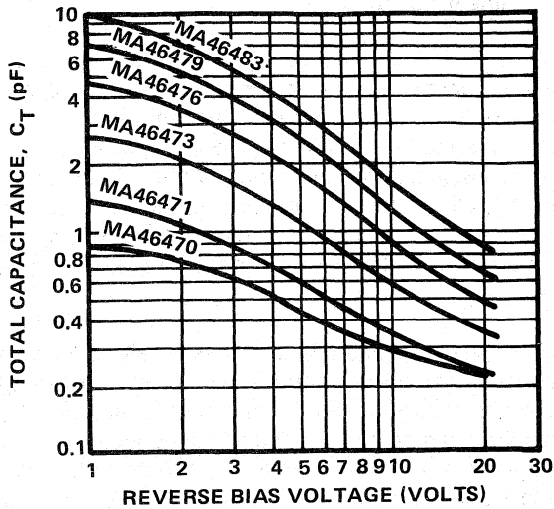
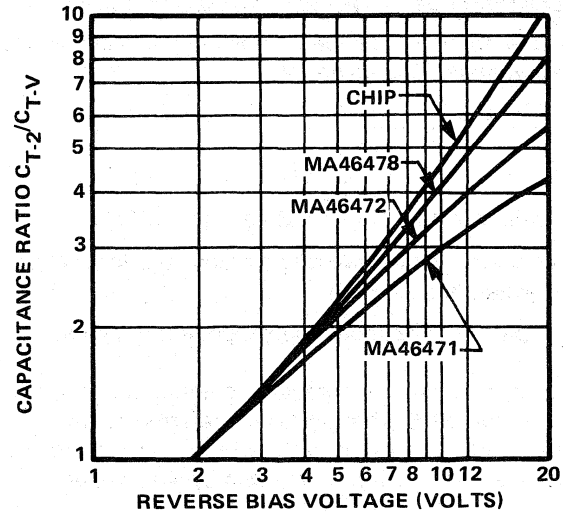
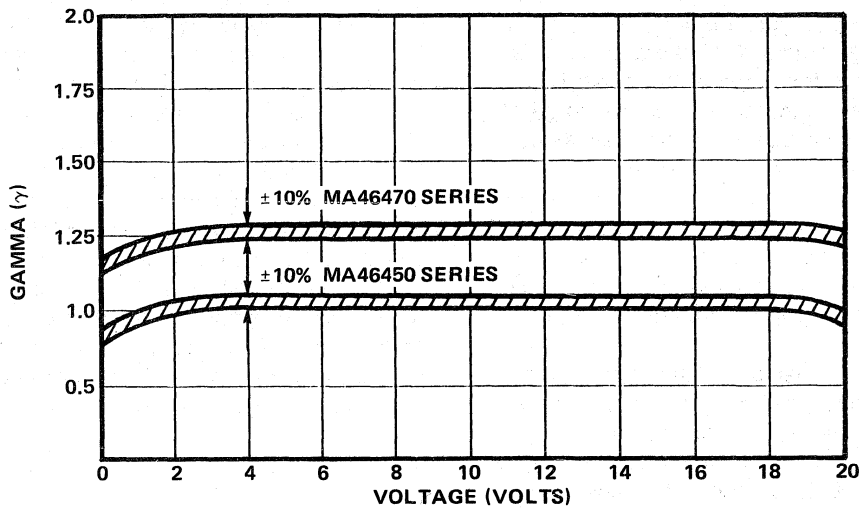

FIGURE 1. Total Capacitance vs. Reverse Bias Voltage (Case Style 30)
FIGURE 2. Capacitance Ratio vs. Reverse Bias Voltage (Case Style 30)
FIGURE 3. Gamma vs. Voltage
- characteristics due to differences in case capacitance ( $C_p$ ). Figures 1 and 4 illustrate typical total capacitance versus applied voltage for these series when case style 30 is selected. Figure 3 illustrates the typical range of  $\gamma$  versus voltage when case style 30 is selected. Figures 2 and 5 illustrate typical capacitance ratios versus applied voltage in case style 30.